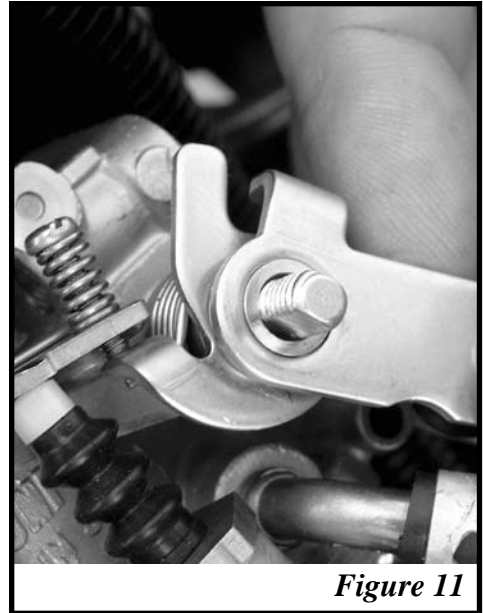

Figure 11
3. Throttle Valve Shaft lever (Figure 11)
Install Throttle Valve Shaft Lever. See figure 11